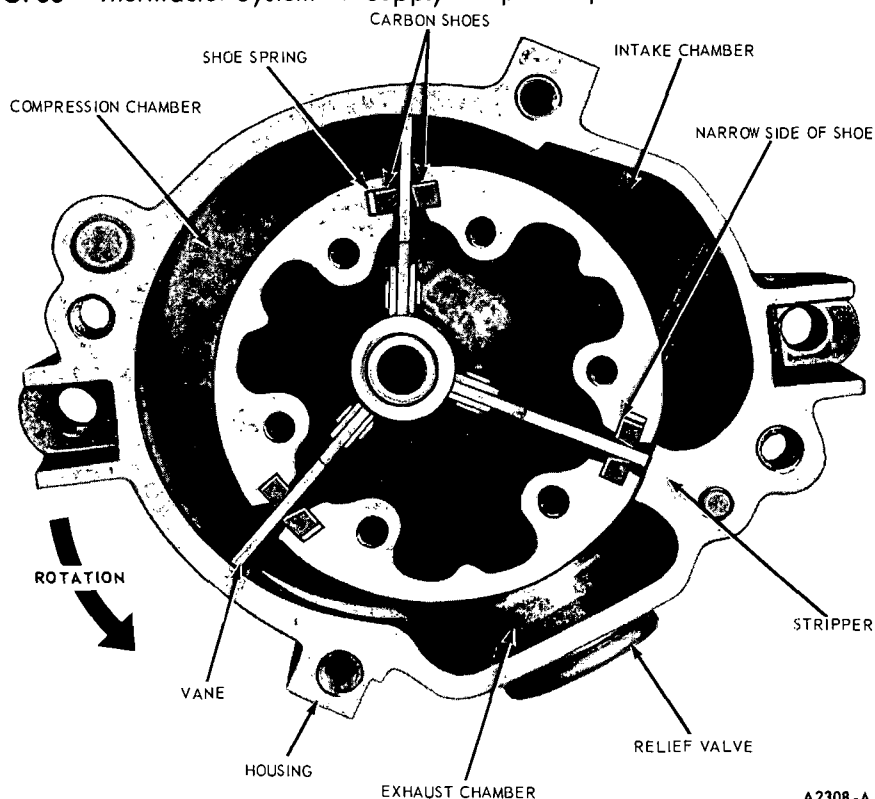

FIG. 34—Vaness, Carbon Shoes and Springs Installed in Rotor
4. Locate the vane (Fig. 34) that is attached to the bearing nearest the cover assembly (rear of pump). Grasp it with the fingers and pull it as far as possible out of the rotor. Then pull the other vanes out as far as possible. Alternately pull each vane until they are free of the rotor. If the carbon shoes and shoe springs move out of the rotor as the vanes are being removed, push down on the carbon shoe next to the shoe spring. Then remove the shoe spring. This will aid in removal of the vanes.
4. Mesh the bearings of the vane assemblies so that the ends of the vanes are even, and install the vanes in the rotor (Fig. 34).
5. Install the carbon shoes in the rotor. **One side of each shoe is not square with the other sides.** The shoes must be installed with the narrow edge towards the vane bearings as shown in Fig. 34 and the slant side against the vane.
Position the vanes with one vane against the stripper part of the housing as shown in Fig. 34.